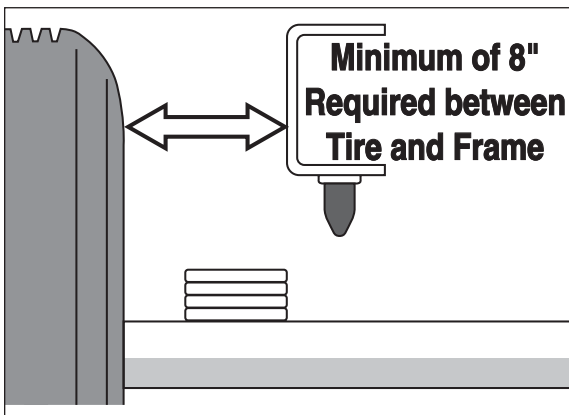

Figure 2
1. Raise the vehicle, remove the wheels, and obtain normal ride height (Figures 2 and 3).